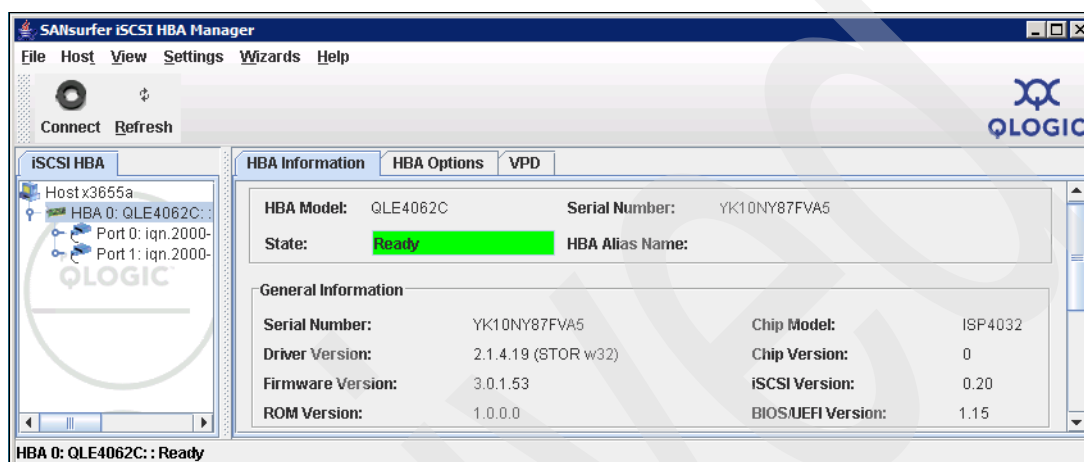

Figure 3-20 Displaying iSCSI card levels
1. Begin starting the iSCSI SANsurfer, and check the adapter drivers, BIOS, and firmware levels. Make sure that they are at the required support level. See Figure 3-20.